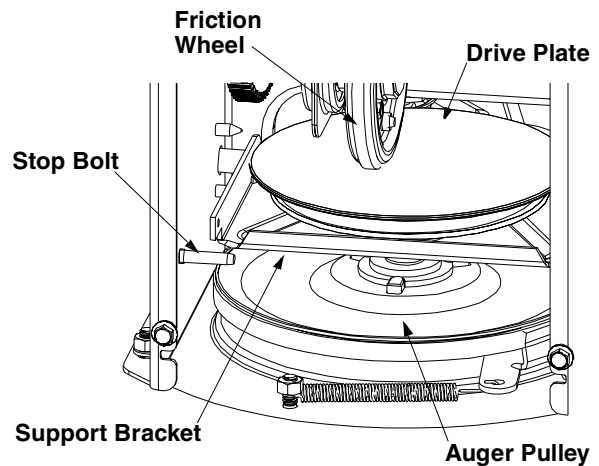

Figure 21
- Back out the stop bolt until the support bracket rests on the auger pulley. See Figure 21.